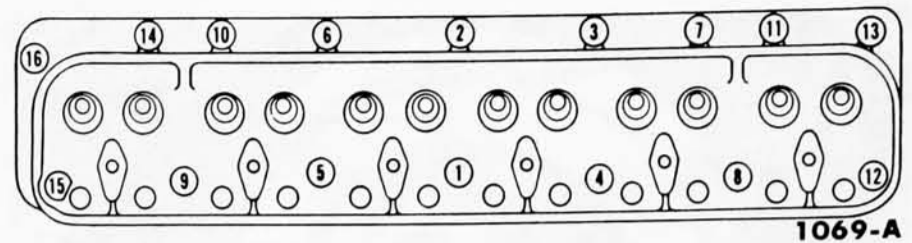

Fig. 18—Cylinder Head Bolt Tightening Sequence
4. The cylinder head bolt tightening procedure is performed in three progressive steps. First, tighten the bolts to 55 foot-pounds torque (cold) in the proper sequence (Fig. 18), then tighten them to 65 foot-pounds torque (cold) in the same sequence. Tighten the bolts again after the engine has been warmed up (Step 13).